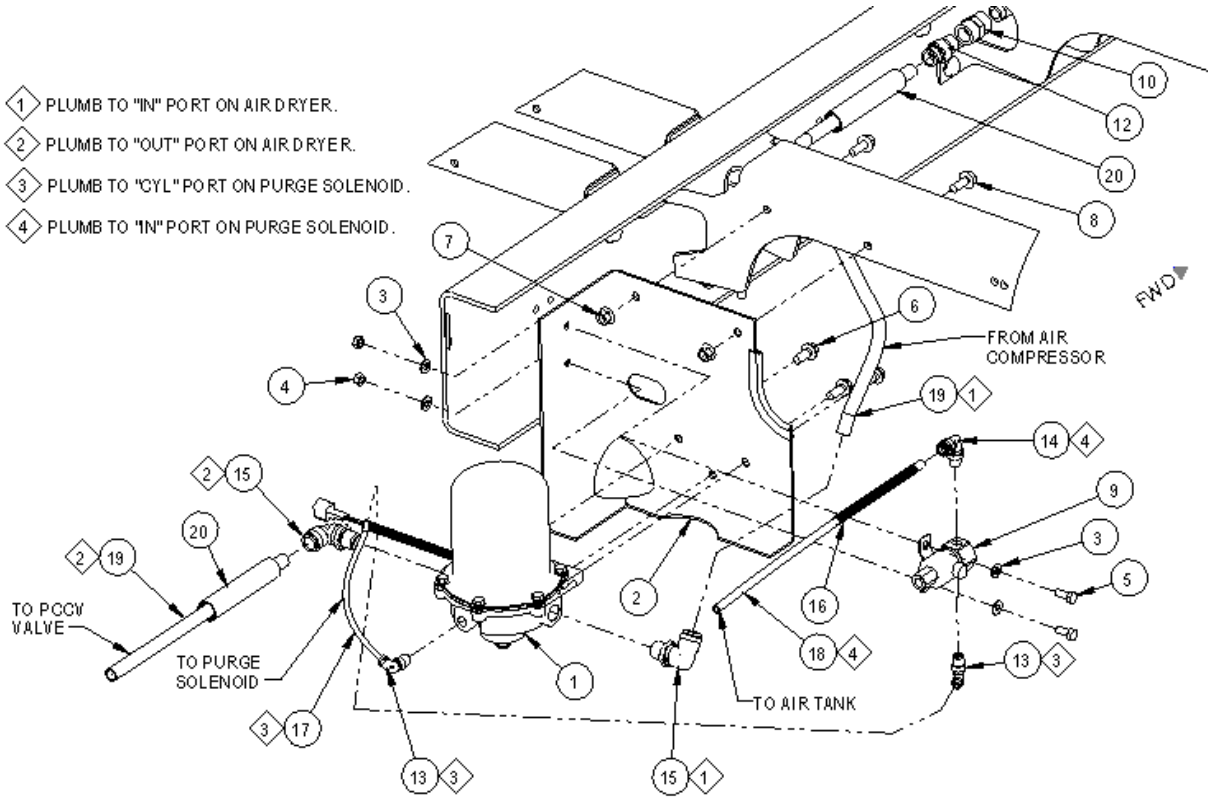

FIG. 2-1
1. Inspect to determine if airline (item 19) from compressor outlet coupling (item 12) is connected to "IN" port of air dryer (item 1). Refer to FIG. 2-1.
4. Reverse lines on air dryer inlet/outlet such that airline (item 19) from compressor outlet coupling (item 12) is connected to "IN" port of air dryer (item 1), and airline (item 19) from pressure control check valve (PCCV) on air tank is connected to "OUT" port of air dryer (item 1). Refer to FIG. 2-1. Photograph installation for submission with repair invoice.